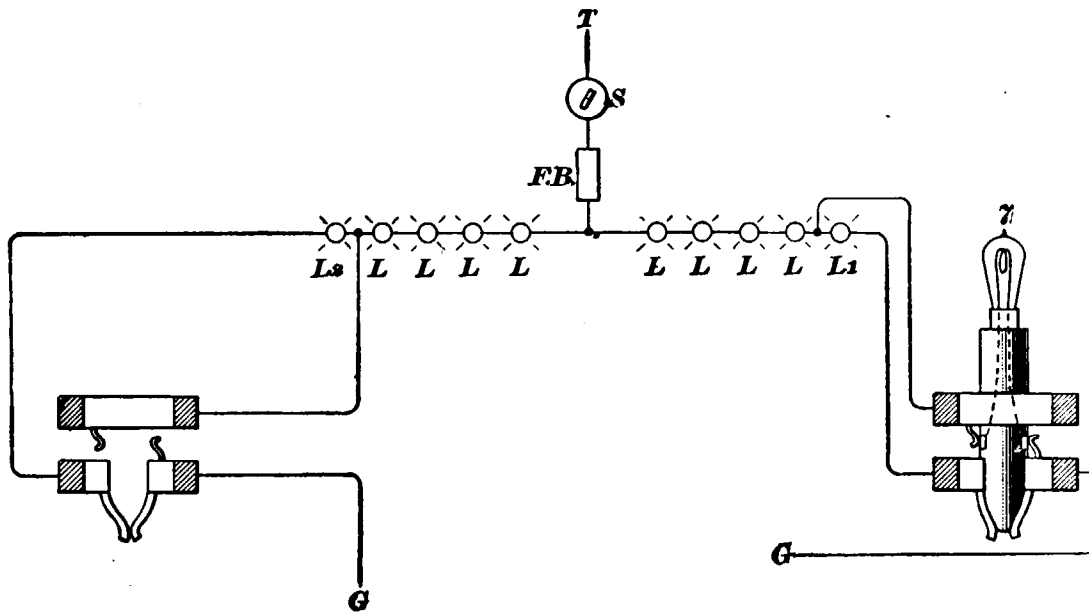

FIG. 57.
51. Changeable Headlight on a Two-Circuit Car.—Fig. 57 shows a light-wiring diagram for an interchangeable